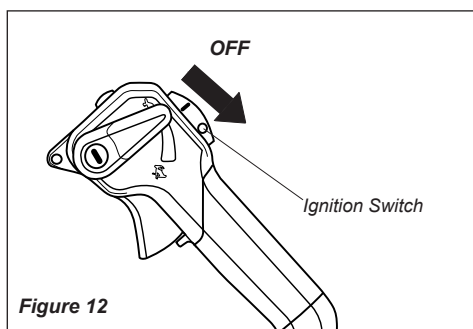

Figure 12
2. Push and hold the Stop button down until the engine stops. Slide the ignition switch towards the rear to “O” (OFF). See Figure 12.